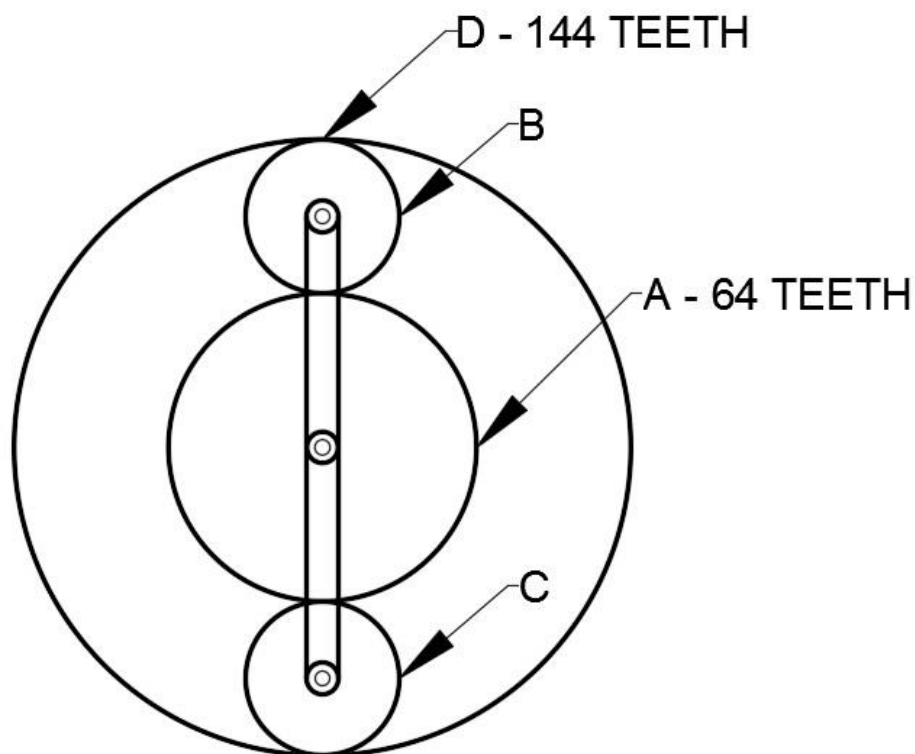

Figure. 1
8. An epicyclic gear train is shown in figure 1. Determine the following: